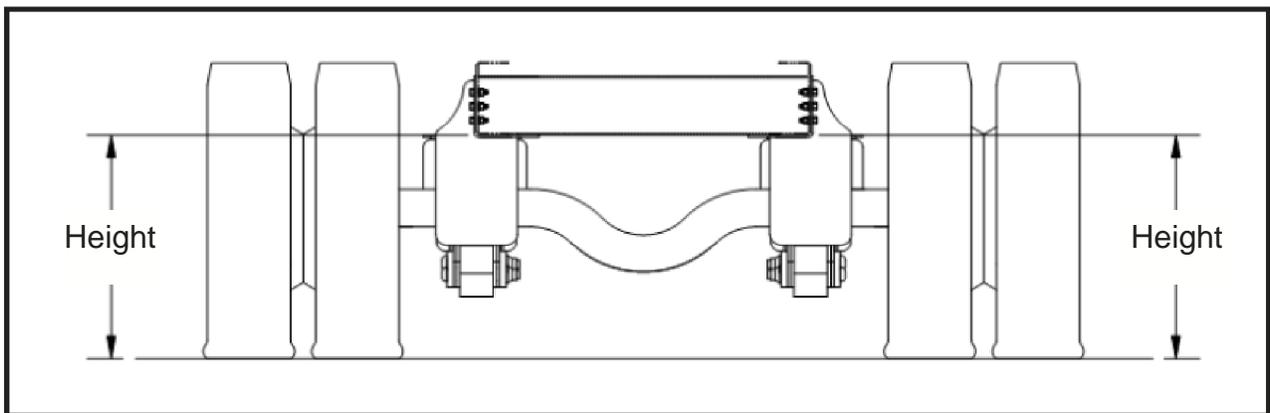

Figure 1
2. The suspension must be at the correct ride height to align properly. The truck and axles must be level. Refer to **Figure 1** and make sure height is true on **both** sides of the truck frame.